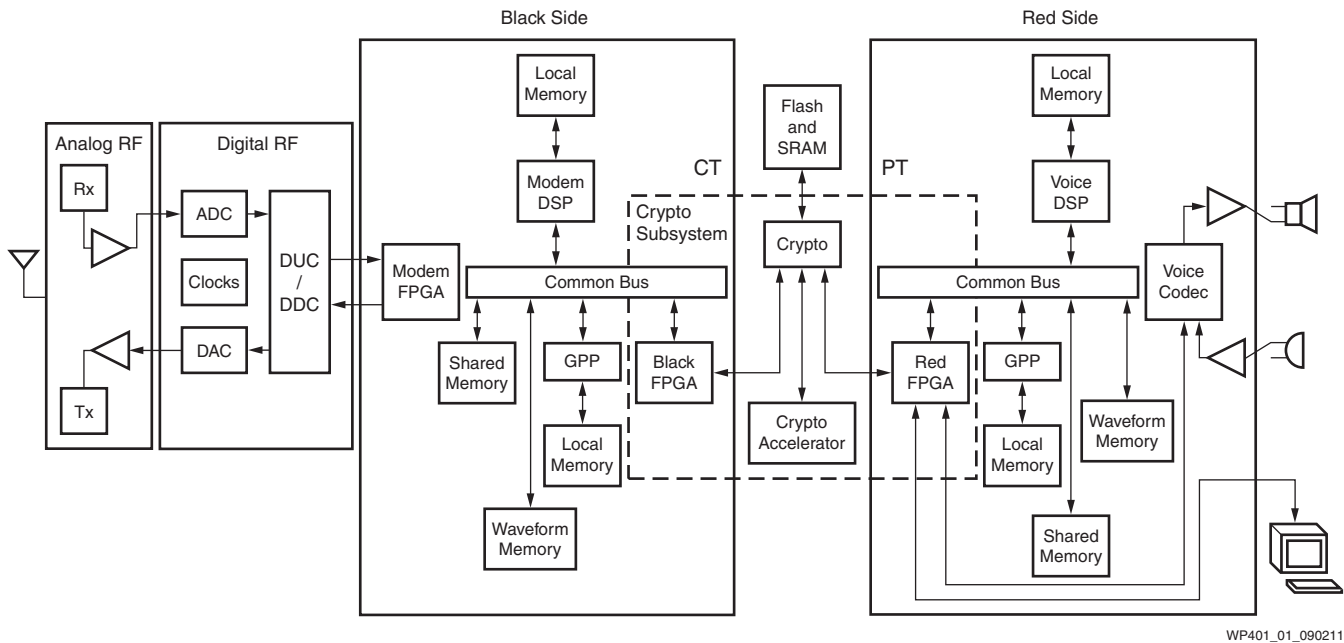

Figure 1: Example SDR Block Diagram
Figure 1 shows an example block diagram of a tactical SDR. The plain text (PT) portion of the radio (sometimes referred to as the "red" side because the information is unencrypted and can be classified) contains a General Purpose Processor (GPP) and "red" FPGA. The PT information is encrypted and transformed into Cipher Text (CT). The CT information is then processed by the "black" side. The black side (encrypted) of the radio contains a "black" FPGA, another GPP, and a FPGA for waveform processing (Modem FPGA). To ensure the security of the information, the PT and CT portions of the radio are isolated and separated to prevent an information leak of classified or sensitive information out of the system in plain text.